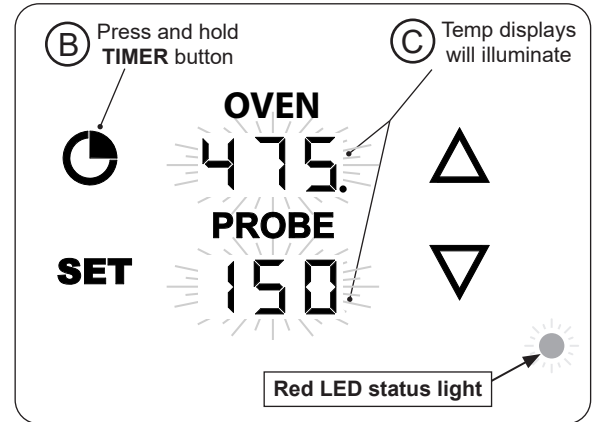
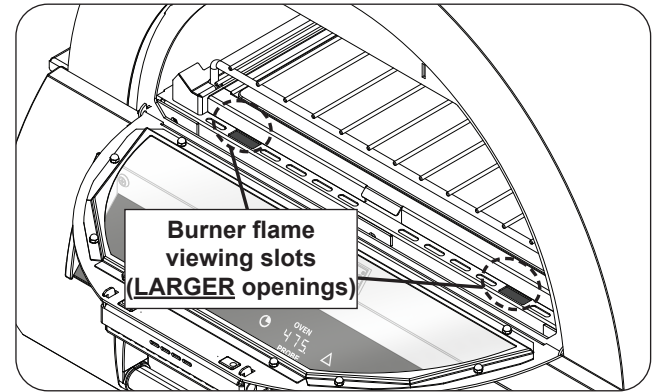

Fig. 4-2 Turn on thermostat
Fig. 4-3 Burner flame viewing slots
3. Press and hold the **TIMER** button (see Fig. 4-2, B) until the remainder of the displays illuminate (see Fig. 4-3, C). (The red LED status light indicates the unit is in the lighting process.)
Important: Visually inspect the burner flames via the two rectangular flame viewing slots (see Fig. 4-3).
For your convenience and safety, when the ignition system is lighting the unit AND when the burners are lit, the red LED status light will illuminate (see Fig. 4-2).